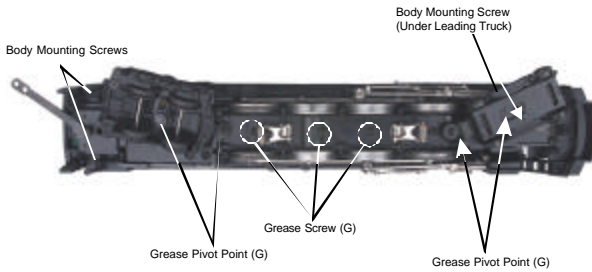
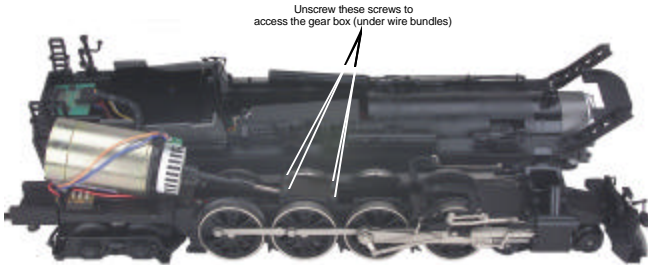

Figure 6: Removing The Body
Figure 7: Opening The Gearbox
2. Remove the boiler by removing the body mounting screws shown in Fig. 6
3. Remove the Phillips screw (marked “GREASE”) located at each set of wheels (Fig. 6) and the gearbox cover screws (Fig. 7).
You should also grease the leading and trailing locomotive truck tongues to enhance their ability to slide on the chassis. Follow the grease points shown on Fig. 6.
1. Remove the boiler from its chassis as shown in Fig. 6 on pg. 13.
If you experience poor or no smoke output when the smoke unit is on and has fluid, check the wick to see if it has become hard, blackened, and unabsorbent around the heating element. To remove the smoke unit you will first have to remove the boiler shell (by removing the body mounting screws shown in Fig. 6 on pg. 13), board and bracket that block the smoke unit assembly from being accessed. To do this, follow these instructions: